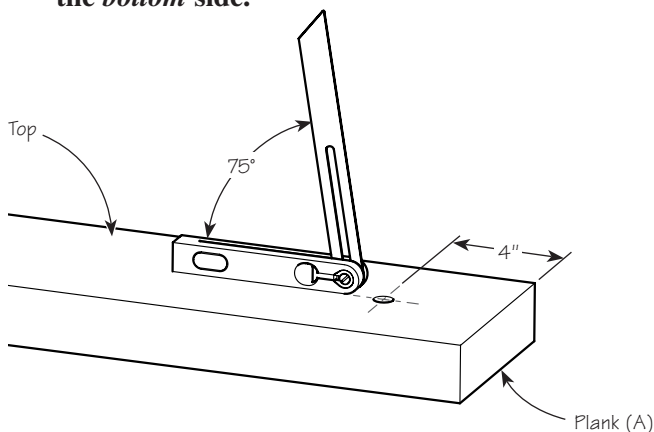

Figure 2: Drill front leg socket.
3. **Drill the leg sockets.** On the top surface of the plank, lay out the holes for the legs (**E**) as shown on **Drawing A**. For the two rear legs, first locate the holes, then draw the triangle from their centers. Drill three $\frac{1}{2}$ " diameter holes as pilots for the reamer, starting with the front leg (see **Figure 2**) for practice before drilling the more complex and important holes for the rear legs. For each of the rear holes, align the sliding bevel (set to 75°) with the appropriate side of the layout triangle, as shown on **Drawing A**. When all the holes are drilled, **turn the plank over and taper/ream the holes from the bottom side.**
Firmly clamp a scrap on the bottom surface to prevent splintering. Set your sliding bevel to 75° . For the front leg only, draw a line down the center of the plank, intersecting the layout point center of the hole. Position the plank on a pair of low sawhorses or some other low support that permits good control when drilling. Set the sliding bevel as shown in **Figure 2**. Start the hole right on the mark, with the bit more or less vertical. After the pilot screw or spur has engaged, tilt the drill or brace over to match the angle shown by the sliding bevel. Sight along the drill bit to align it with the center line. Periodically stop drilling to check the angle against the sliding bevel.